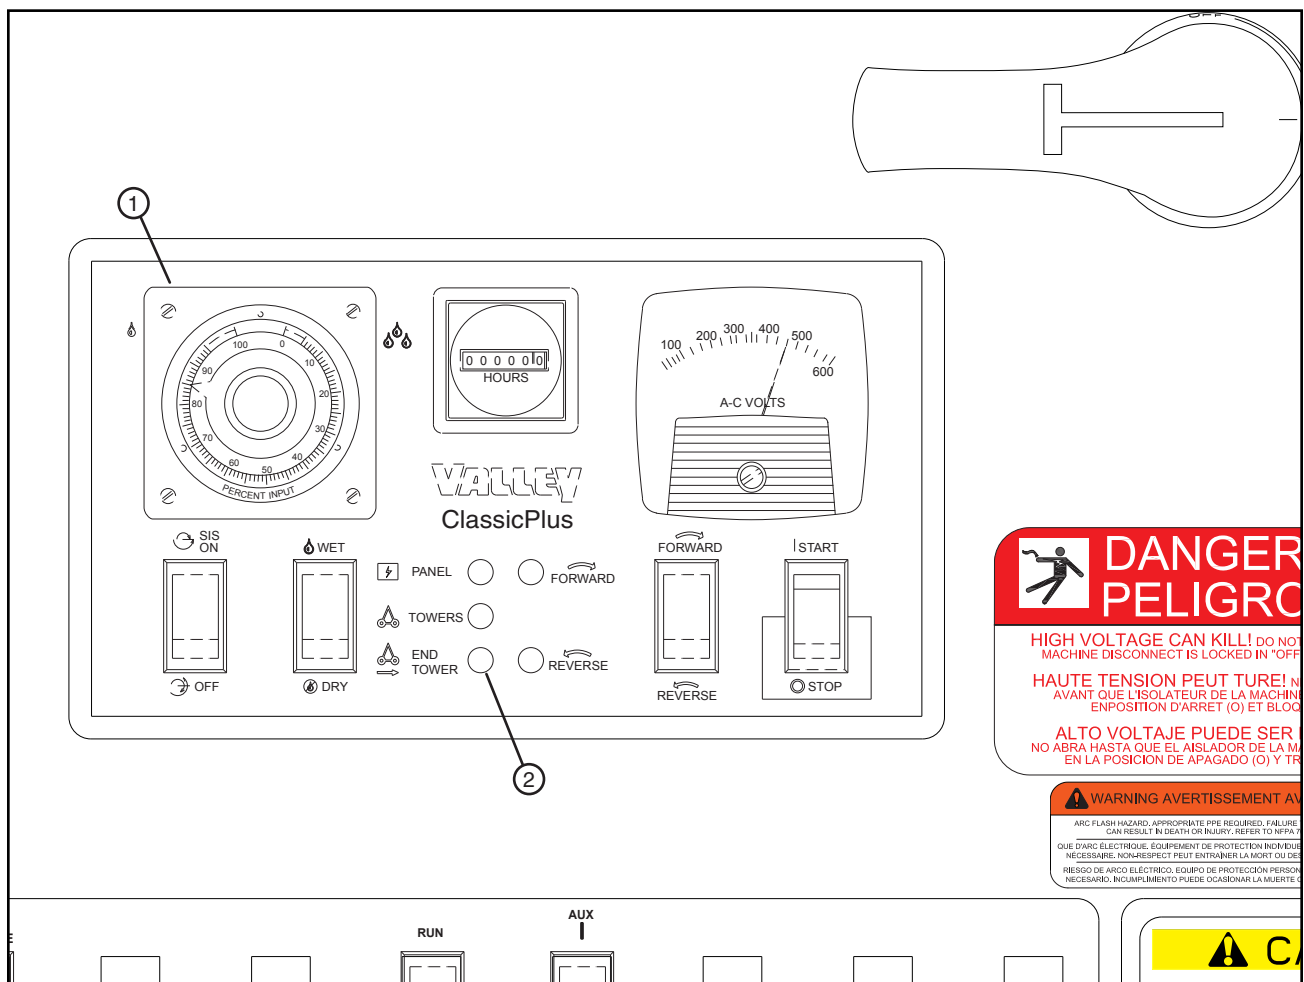

Figure 33-1 1. Percent Timer
1. Set the percent timer to 20% on the dial. See Figure 33-1.
3. Watch the End Tower indicator light for several complete cycles (ON/OFF) of the timer to insure you catch a complete timer cycle. See Figure 33-1.